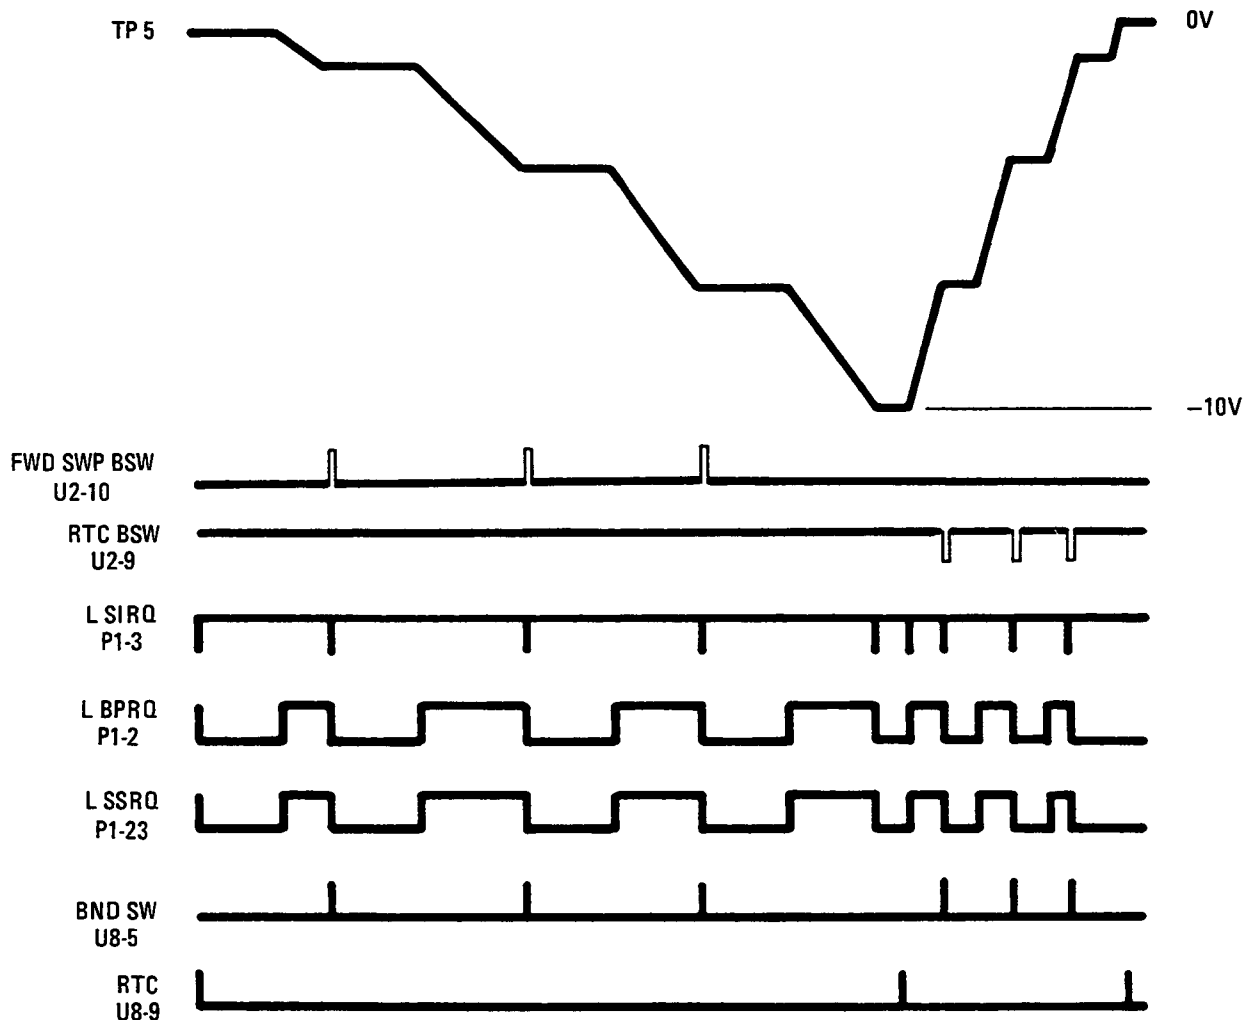

Figure 8-45. Sweep Control/Interrupt Logic Waveform
1. Verify operation of the bandswitch comparator by checking the FWD SWP BSW (U23 pin 7) and RTC BSW (U14 pin 7) waveforms as shown in Figure 8-45.
2. With an oscilloscope, check the following edge-connector pins: P1-3 (L SIRQ), P1-1 (L RTS), and P1-23 (L SSRQ). The appropriate waveforms are shown in Figure 8-45.
**NOTE:** Most of the signals discussed in this section are illustrated in Figure 8-45.